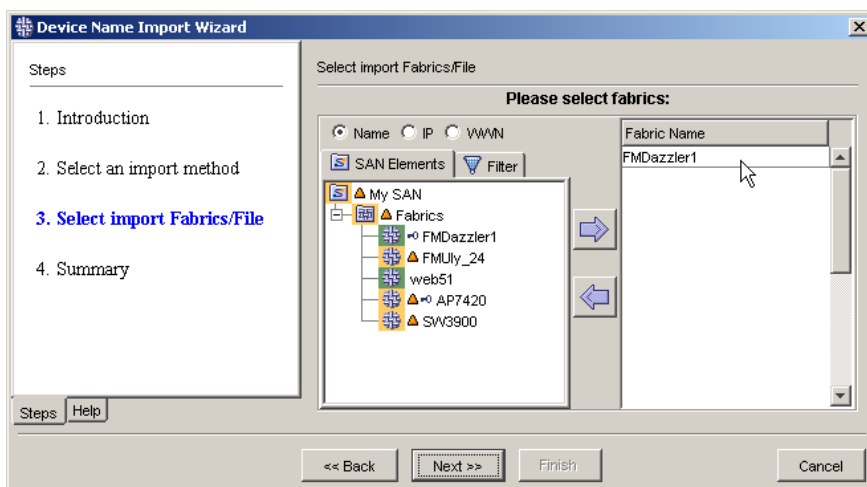
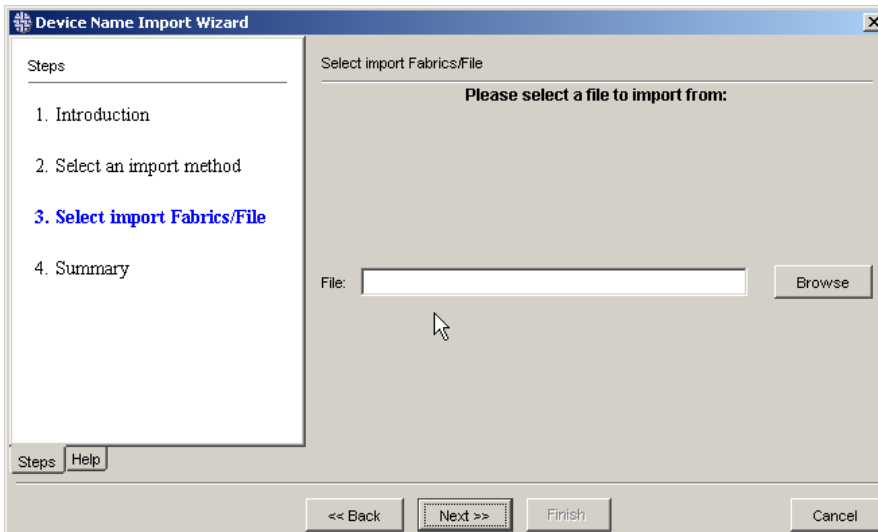

Figure 90 Zone alias import
Figure 91 CSV file import
6. If you selected Zone Alias Import, you must select a fabric (see Figure 90). If you selected CSV File Import, you must select a file (see Figure 91).